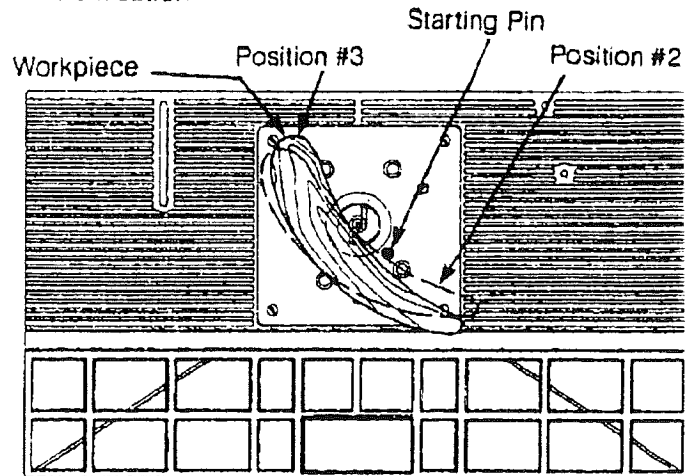

FIGURE 39
5. With this workpiece contacting pilot, swing workpiece away from the starting pin, as shown by position #3 in Figure 39.